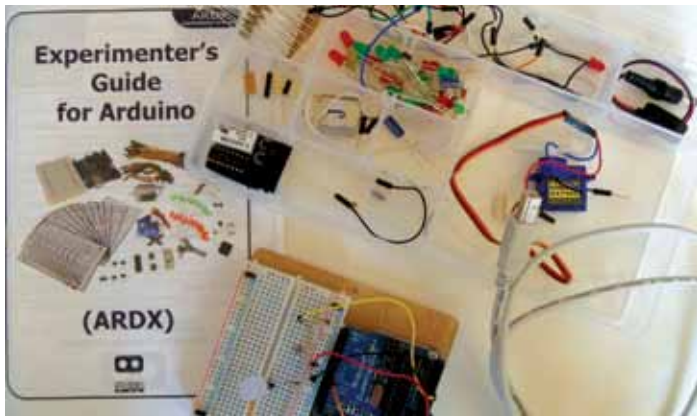

Figure 1: Kit of parts. Not all ingredients shown are used.
Step 1: Combine the Arduino board, wires, resistors, LED, and photo-resistor into a circuit (see Figures 1, 2, and 3). Using the Arduino IDE and USB cable, connect the circuit board to the computer. Add the Processing code sketch. The working circuit is done if waving your hand over the the photo-resistor causes the LED to brighten and dim.